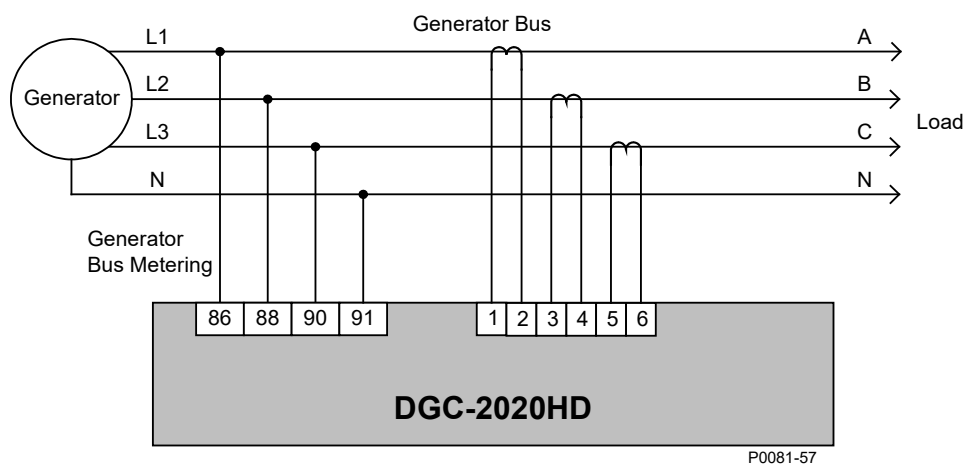

Figure 3-6. No Breaker Control Connections
- No breaker control Figure 3-6